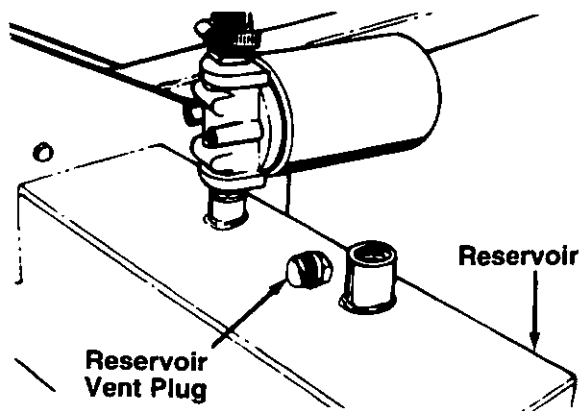

FIGURE 12.
- Remove the vent plug and **check the fluid level.** See figure 12. Fluid level should be 1-1/2" to 2" from the top of the tank.
- Remove reservoir vent plug. See figure 12. Using Dexron II automatic transmission fluid, fill reservoir to the top. Replace vent plug securely.